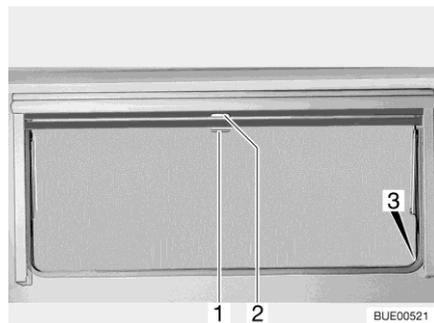

Fig. 97 Hinged window
- Pull blind at the handle (Fig. 97,2) downwards. If the blind is to be completely closed, it is suspended into the locking devices (Fig. 97,3) situated on both sides of the window frame.
- If the blind is completely closed: Press handle (Fig. 97,2) downwards and, at the same time, tilt it slightly inward. The blind can be taken out of the locking devices situated on both sides of the window frame.
- If the blind is in an intermediate position: Pull the handle (Fig. 97,2) slightly downwards until the locking device releases.
- Pull insect screen at the handle (Fig. 97,1) down and hang it into the locking devices (Fig. 97,3) situated on both sides of the window frame.
- Press handle (Fig. 97,1) downwards and, at the same time, tilt it slightly inward. The insect screen can be taken out of the locking devices situated on both sides of the window frame.